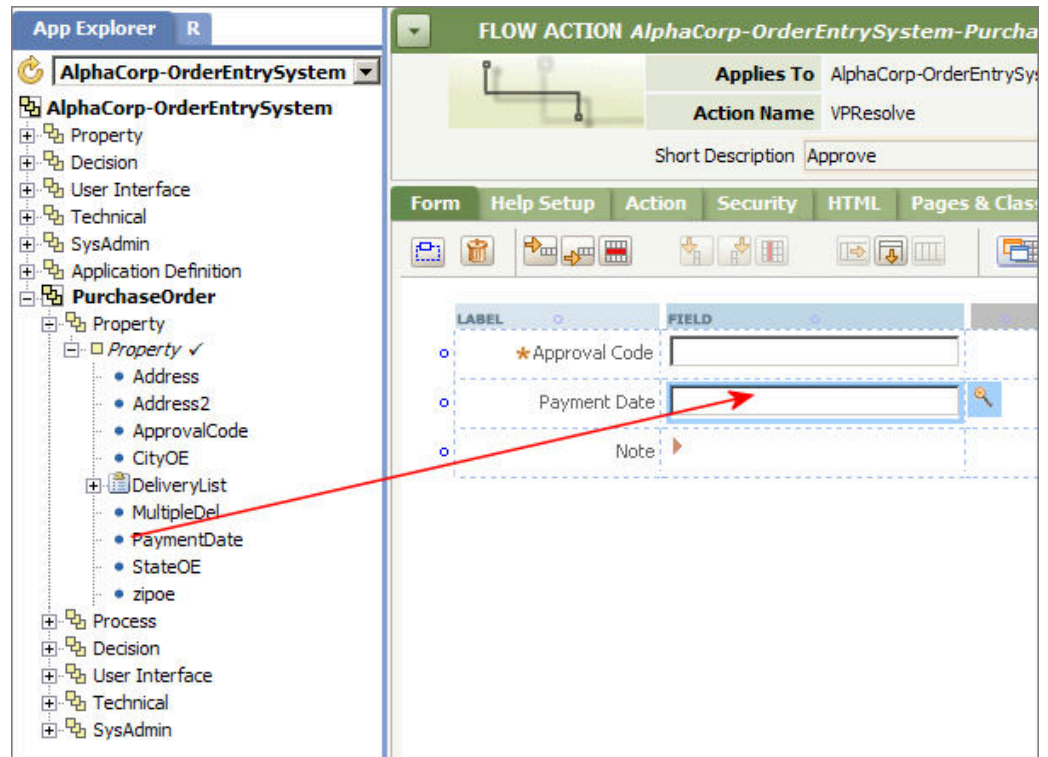

Figure 4-20. Payment Date Label
5. Hold the mouse button down, and drag the property onto the Flow Action rule form (Figure 4-20). Drop the property into the right Field cell of the new row.